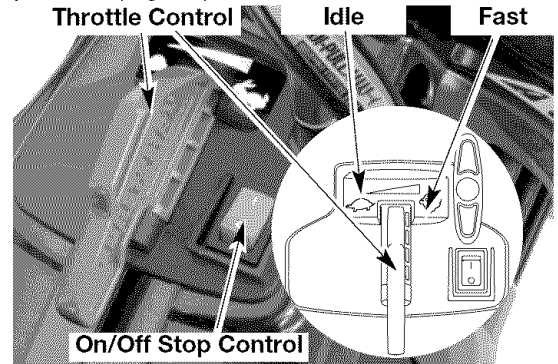
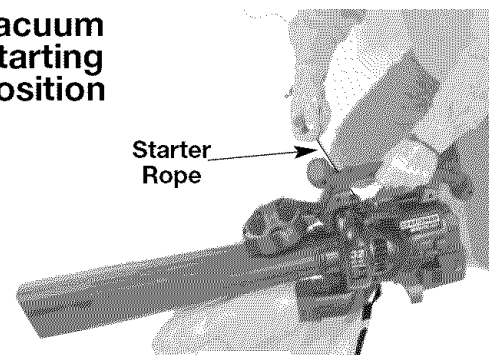

Fig. 9
Fig. 12
4. Place the unit in the starting position (Fig. 11) as a blower, Fig. 12 as a vacuum). **Move the throttle control to the idle position** (🐢) (Fig. 9). This is especially important during cold starting.